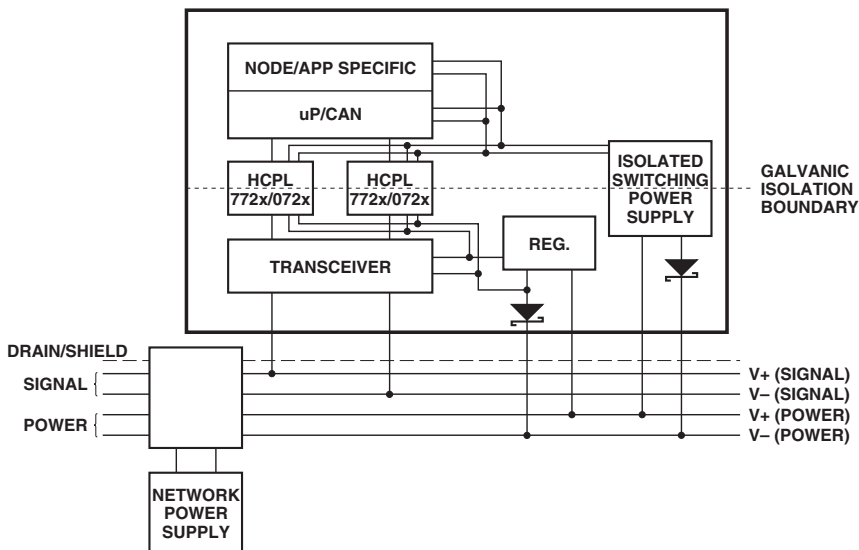
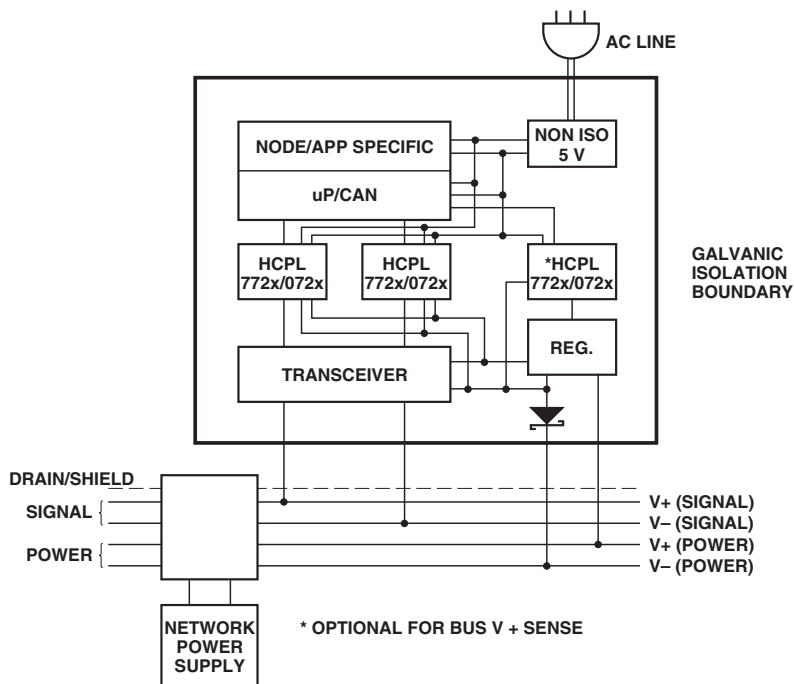
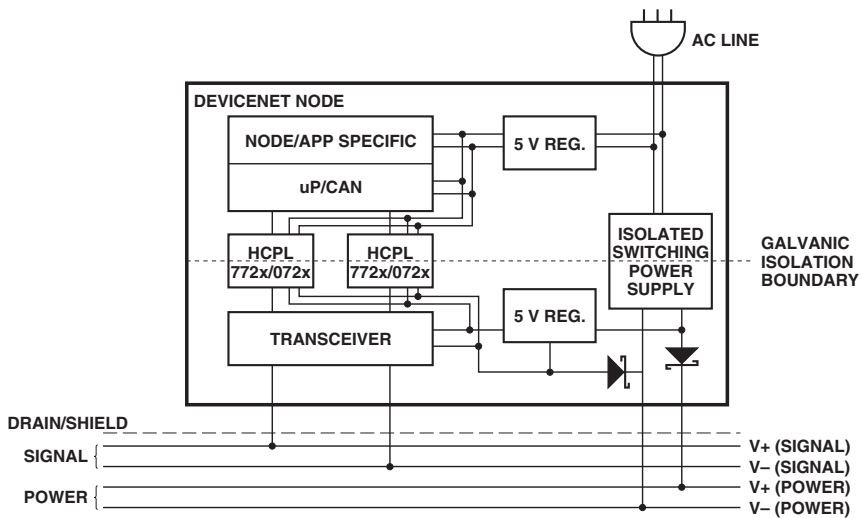

Figure 18. Isolated node powered by the network.
Figure 19. Isolated node with transceiver powered by the network.
Figure 20. Isolated node providing power to the network.
With transmission rates up to 1 Mbit/s, both DeviceNet and SDS are based upon the same broadcast-oriented, communications protocol — the Controller Area Network (CAN). Three types of isolated nodes are recommended for use on these networks: Isolated Node Powered by the Network (Figure 18), Isolated Node with Transceiver Powered by the Network (Figure 19), and Isolated Node Providing Power to the Network (Figure 20).
This type of node is very flexible and as can be seen in Figure 18, is regarded as “isolated” because not all of its components have the same ground reference. Yet, all components are still powered by the network. This node contains two regulators: one is isolated and powers the CAN controller, node-specific application and isolated (node) side of the two optocouplers while the other is non-isolated. The non-isolated regulator supplies the transceiver and the non-isolated (network) half of the two optocouplers.
Figure 19 shows a node powered by both the network and another source. In this case, the transceiver and isolated (network) side of the two optocouplers are powered by the network. The rest of the node is powered by the AC line which is very beneficial when an application requires a significant amount of power. This method is also desirable as it does not heavily load the network.
It is suggested that the Bus V+ sense block shown in Figure 19 be implemented. A locally powered node with an un-powered isolated Physical Layer will accumulate errors and become bus-off if it attempts to transmit. The Bus V+ sense signal would be used to change the BOI attribute of the DeviceNet Object to the “auto-reset” (01) value. Refer to Volume 1, Section 5.5.3. This would cause the node to continually reset until bus power was detected. Once power was detected, the BOI attribute would be returned to the “hold in bus-off” (00) value. The BOI attribute should not be left in the “auto-reset” (01) value since this defeats the jabber protection capability of the CAN error confinement. Any inexpensive low frequency optical isolator can be used to implement this feature.
Figure 20 shows a node providing power to the network. The AC line powers a regulator which provides five (5) volts locally. The AC line also powers a 24 volt isolated supply, which powers the network, and another five-volt regulator, which, in turn, powers the transceiver and isolated (network) side of the two optocouplers. This method is recommended when there are a limited number of devices on the network that don't require much power, thus eliminating the need for separate power supplies.